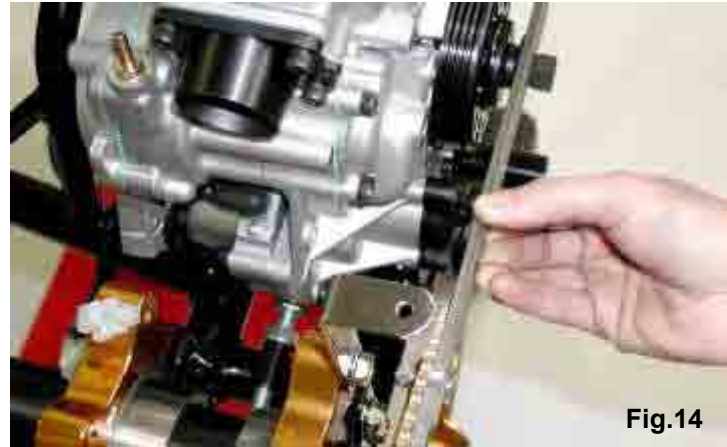

Fig.14
2.7.2 CHECK THE ALIGNMENT OF THE ENGINE SPROCKET AND THE AXLE SPROCKET WITH A STRAIGHT EDGE (SEE FIG.14).